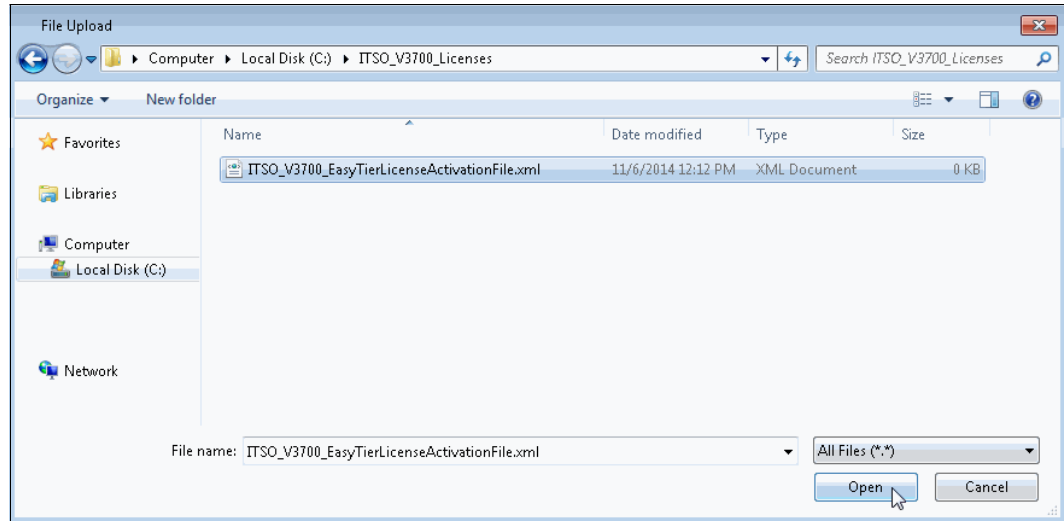

Figure 9-8 Importing the Easy Tier license file
5. Change to the directory where the activation license file is saved and click **Open**, as shown in Figure 9-8.